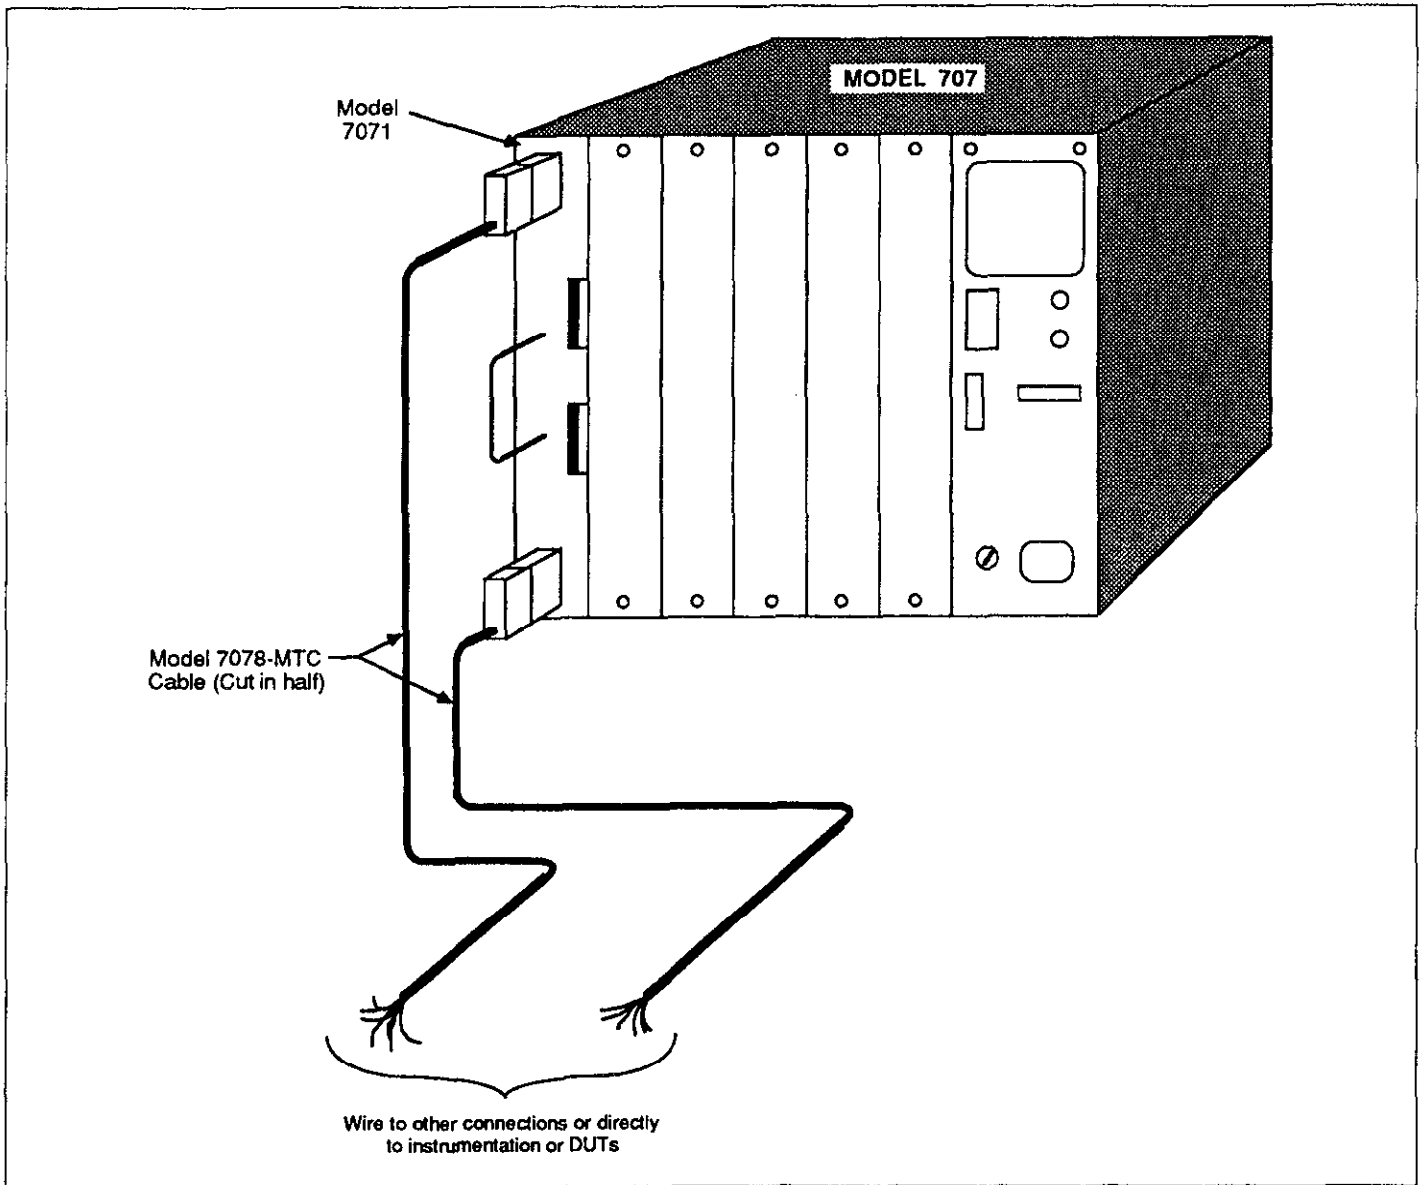

Figure 2-11. Connections Using One Model 7078-MTC Cable Cut in Half
Another way to use the Model 7078-MTC cable is to remove one of the plugs. Cutting the cable in half will provide two 10 foot cables. Each cable can then be mated to the "ROWS" or "COLUMNS" receptacle (see Figure 2-11). The wire end of each cable can then be wired to another connector or wired directly to instrumentation or DUTs. The cable contains twelve bundles of wires each of which corresponds to a row or column. Each bundle contains three wires; a bare wire (guard) and two insulated wires that have a unique color combination for identification purposes. Table 2-3 provides the color combinations for each bundle. For example, with the cable connected to the "ROWS" receptacle of the matrix card, Row E can be identified by locating the bundle that has a red insulated wire (H) and a blue insulated wire (L). The bare wire in the bundle is guard (G).